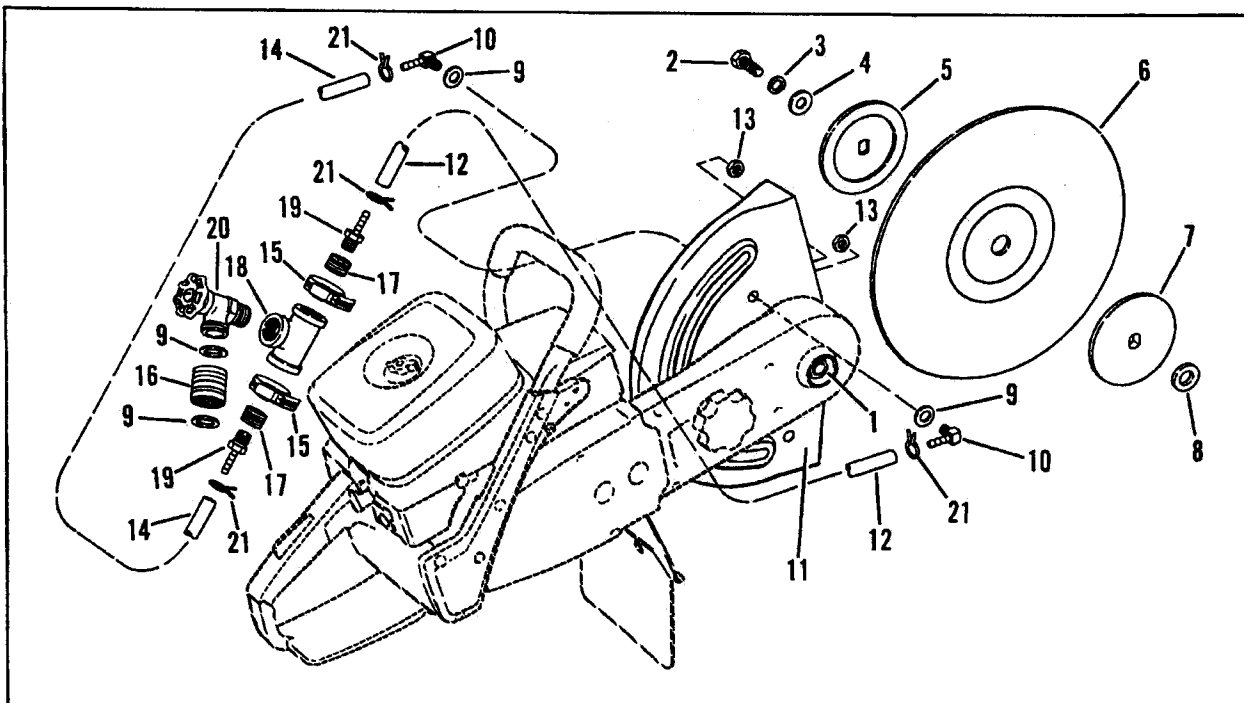

Figure 2
Inner flange (7) and spacer (8) do not need to be removed. Should they be removed, refer to Figure 2 for correct order of assembly. Inner flange (7) is not interchangeable with outer flange (5).
4. Ensure that washer (9) is placed over thread on elbow nipple (10). Do this for both nipple assemblies.
5. Rotate wheel shield (11) to position shown in Figure 2.
6. Install washer and elbow nipple which are connected to short hose (12) into hole in wheel shield on right side of saw. Refer to Figure 2.
Secure elbow nipple with jam nut (13), pointing nipple to rear of saw as illustrated in Figure 2.
7. Route long hose (14) and nipple assembly under front handle and install on left side of wheel shield (11). Tighten and align in same manner as discussed in step 6.
Figure 2 illustrates assembly with arm/wheel assembly in center cut position. If arm/wheel assembly is installed for flush cutting, orientation of nipples must be changed to coincide with new shield position. Hose routing remains unchanged.
8. Mount drain valve and tee assembly to saw handle using 2 worm clamps (15), as shown in Figure 2. Ensure that tee assembly does not contact handle support when clamps are tightened.
9. Ensure that female-to-female adaptor (16) has a hose washer installed. Connect water supply to drain valve assembly.
10. Install spacer (8), inner flange (7), wheel (6), and outer flange (5).